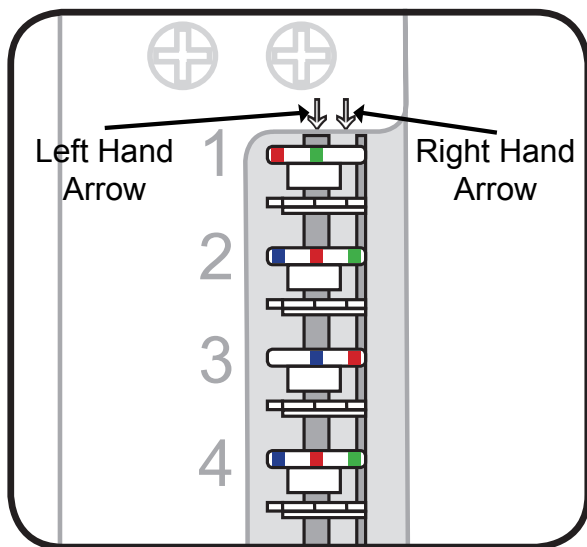

Fig.4
The coding chamber is non-sequential so the code can be entered in any order. If for instance the unit was coded to 1124 (as per fig.4 below), the unit can be opened by entering 1142, 4211, 1214 etc...
3. With the coding chamber reset you will see that the coding disks are set to what the keypad is currently coded to. If for instance the unit is coded to 1124; the number 1 disk will have the green marker of the coding disk lined up with the left hand arrow on the cover plate. The number 2 and 4 will have the red marker of the coding disks lined up with the left hand arrow (as per fig.4). All the other coding disks will have the blue line in alignment with the left hand arrow.